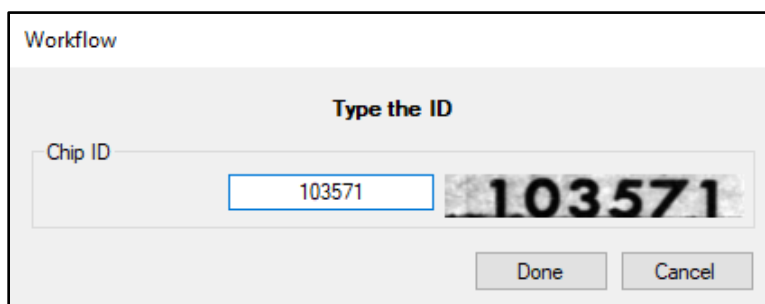

Figure 84. Enter the chip ID after autofocus and barcode scanning steps
5. When the autofocus and barcode scanning steps are complete, if there is no chip ID picture shown, as in Figure 84, that indicates the chip is likely in the incorrect orientation and needs to be rotated and resealed.